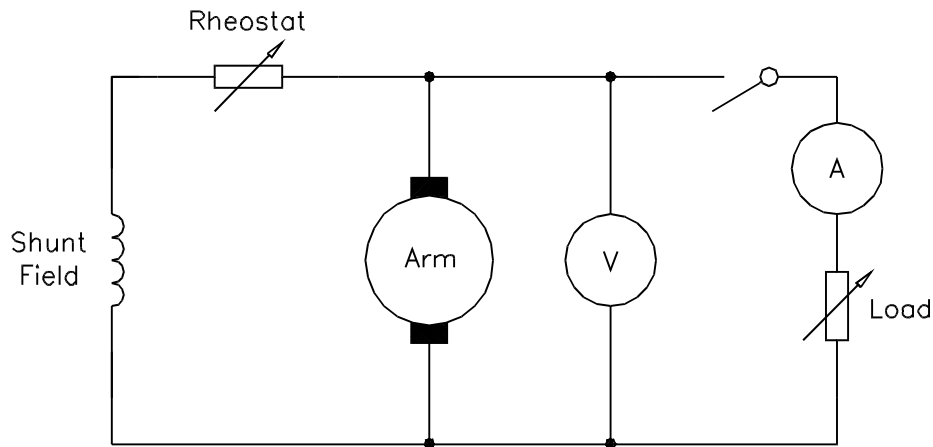

Figure 53. Shunt excited generator
15. Figure 53 shows a separately excited generator. It can be seen that the armature is only connected to the load. If the machine is connected as a motor, then the supply must be connected across the armature.